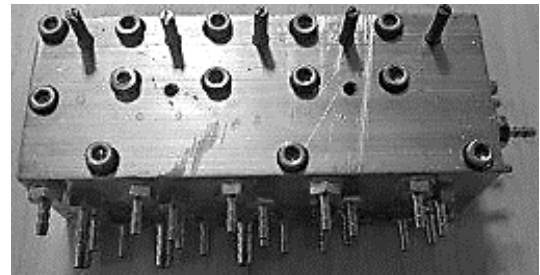

Fig. 1
- 5 Using a 7/64" Allen wrench, remove all 13 screws from the control block; set screws aside. (Fig. 1)